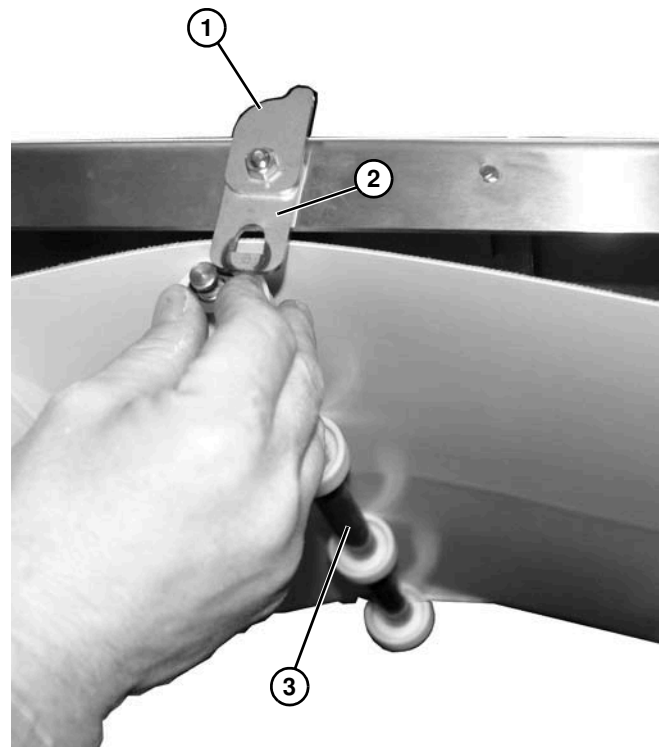

Figure 84
6. Raise clip bracket (Figure 84, item 1) from shaft bracket (Figure 84, item 2) on conveyor.
7. Install roller assembly (Figure 84, item 3) onto shaft brackets (Figure 84, item 2) on both sides of conveyor.